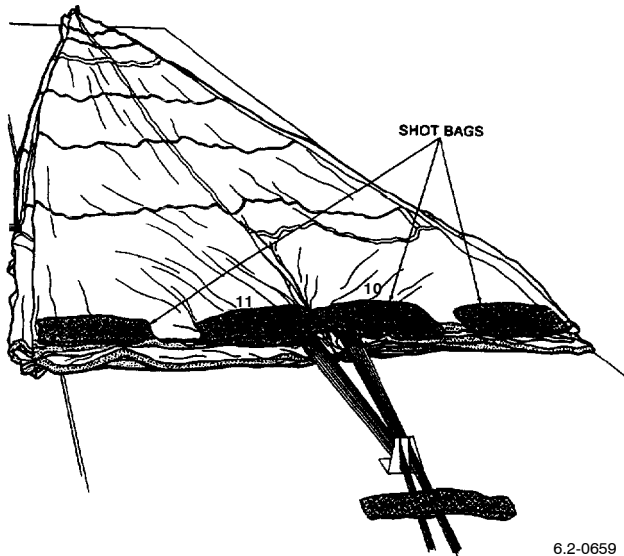

Figure 9. Canopy Folded
n. Helper shall return and smooth folded gores on top of shot bag, one at a time, to packer's side of packing table (Figure 9).